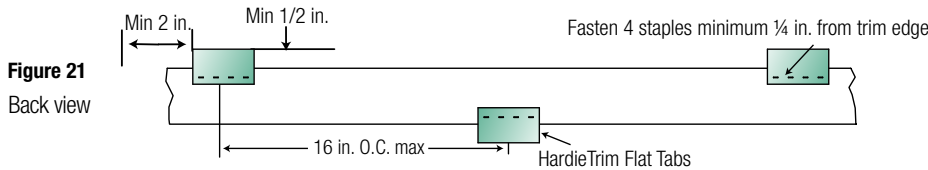

Figure 21
Step 1: Attach HardieTrim Flat Tabs to the back side of the trim using four, 18 ga. 1/2 in. L x 1/4 in. W narrow crown corrosion resistant staples, equally spaced in one row, positioned no closer than 1/2 in. from trim edges using a pneumatic staple gun. (figures 21, 22)
Terminate ends of the Band Board into Trim or Siding or miter cut the edges of the trim at the corners of the building. Place a HardieTrim Flat Tab at the end of each trim board and one tab every stud at a maximum of 16 in. O.C. The HardieTrim Flat Tabs should be attached to the trim in an alternating pattern to the top and bottom of the band board (figures 21, 22). Use 16 ga. galvanized 2 in. long finish nails to ensure proper fastening if needed.